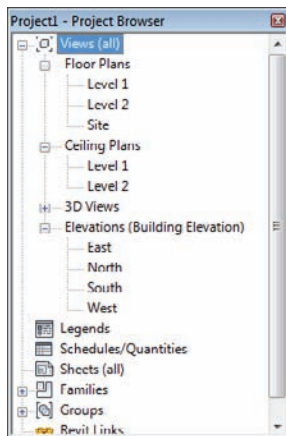

FIGURE 1.46 The Project Browser is your new BIM Windows Explorer.
1. To the far left of the Revit interface is the Project Browser (see Figure 1.46).